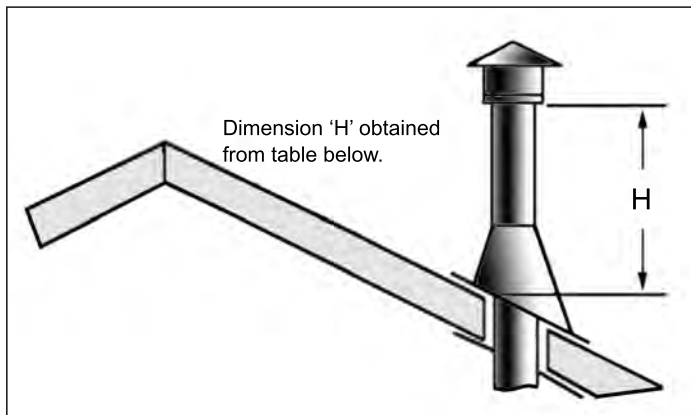

Figure 31: Height of Vertical Termination; Reference Table 5.
8. Continue to add pipe sections until the height of the vent cap meets the minimum code requirements. Refer to Figure 31 and Table 5. Note that for steep roof pitches, the vent height must be increased. In high wind conditions, nearby trees, adjoining roof lines, steep pitched roofs, and other similar factors can result in poor draft, or down drafting. In these cases, increasing the vent height may solve the problem.
Table 5: Minimum 'H' for Figure 31.